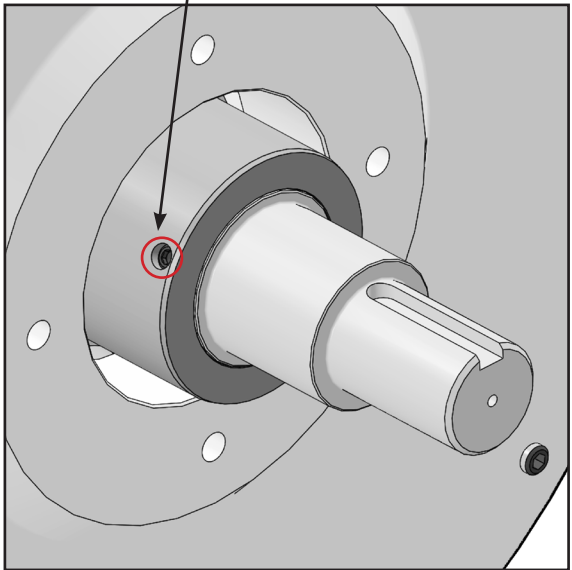

FIGURE 25
- 13. Prepare for removal of bushing by fully removing the three set screws previously loosened on the bushing (Figure 25).
- 21. Tighten the three setscrews located on the bushing; apply loctite if readily available (Figure 25).